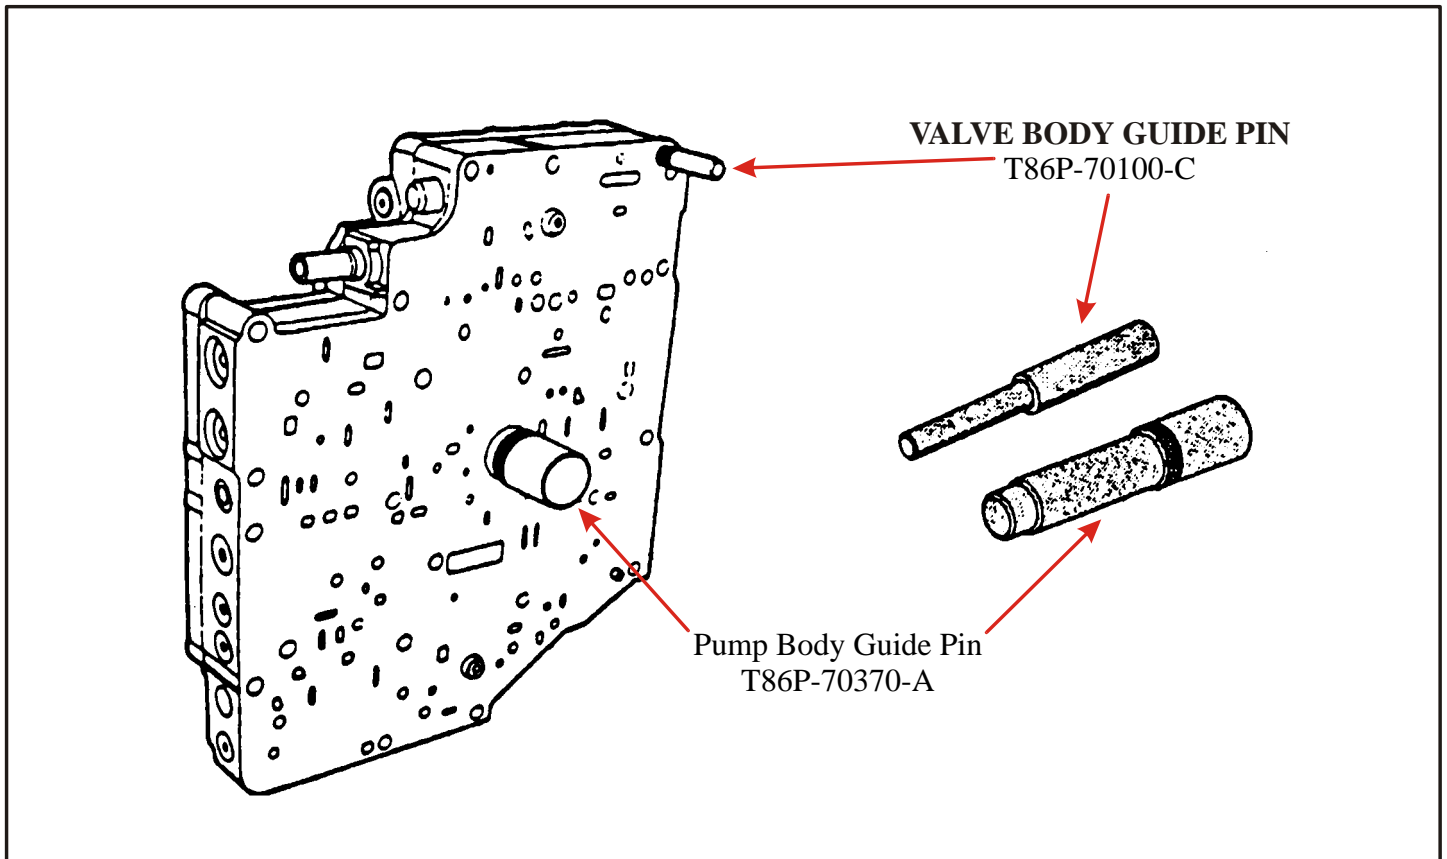

Figure 3
9. Insert pump body guide pin T86P-70370-A and valve body guide pin T86P-70100-C (.254" Diameter) as shown in Figure 3.